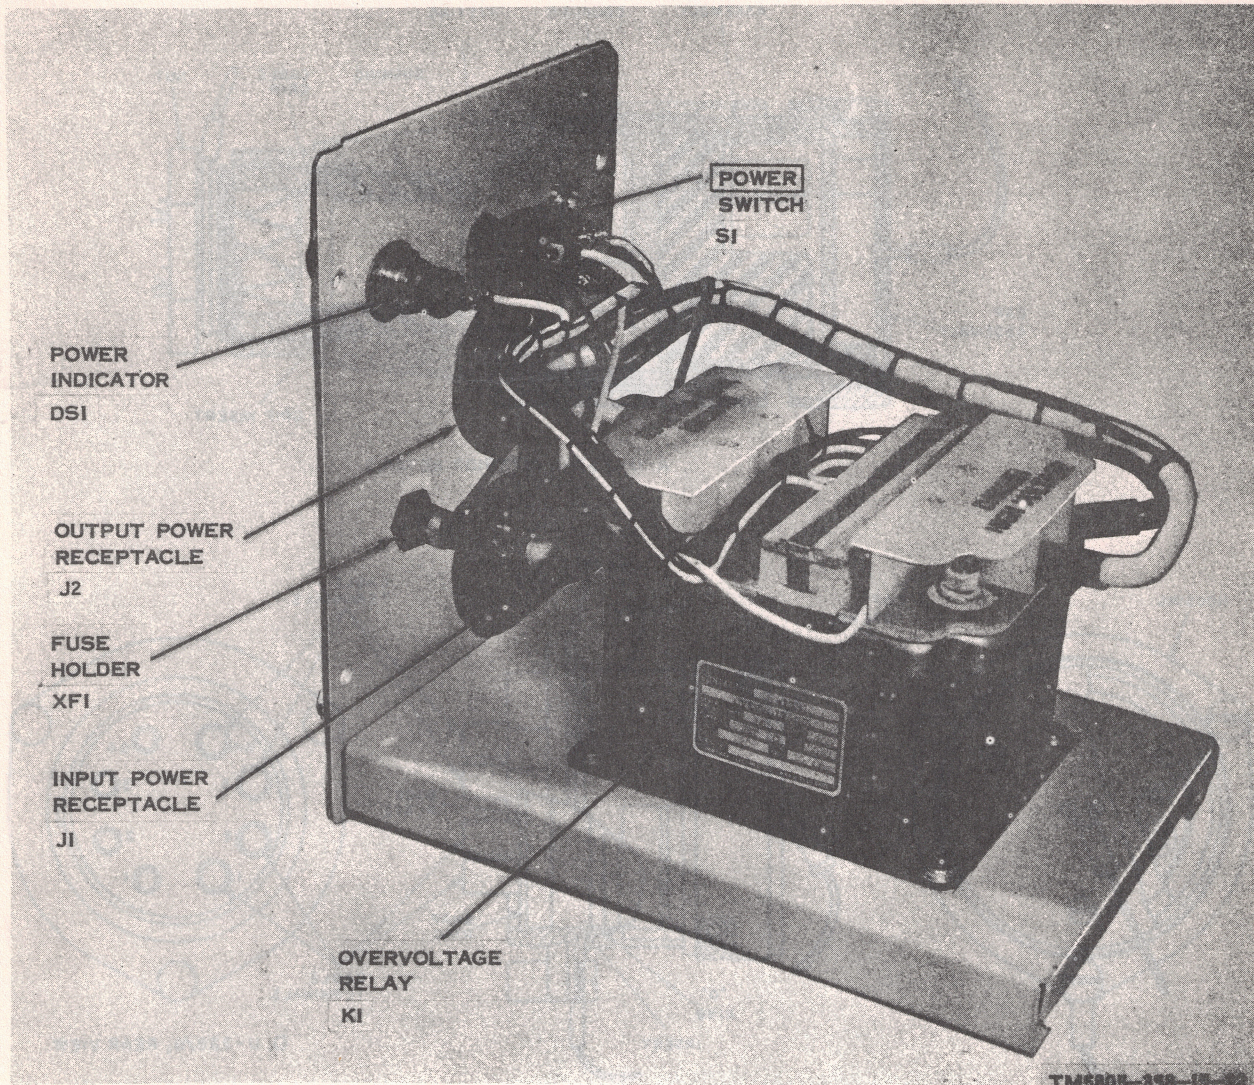

Figure 4-6. Overvoltage protection device, parts location.
c. *Overvoltage Protection Device* (figs. 4-6 and 4-7). Remove the cover from the overvoltage protection device, and then perform the required troubleshooting and repair procedures.